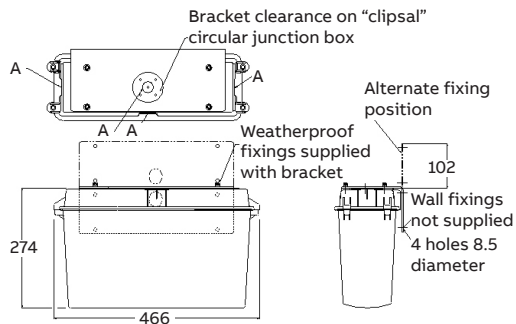
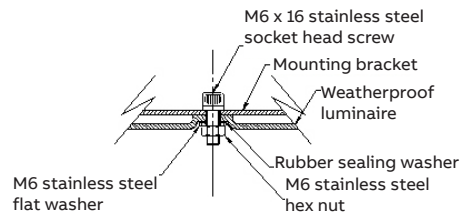
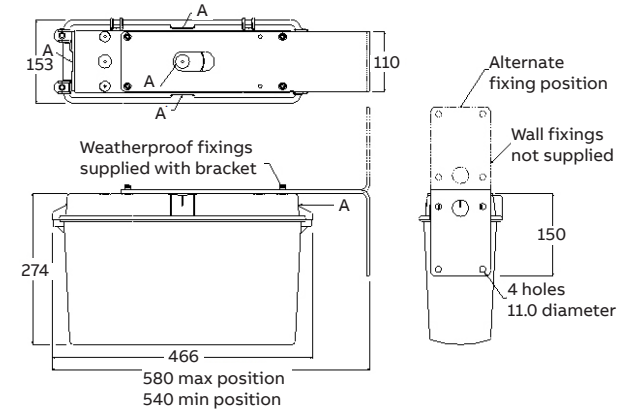
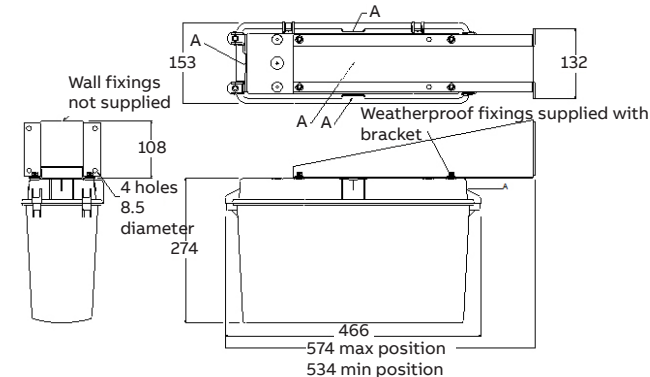

Figure 2: Showing installation detail of wall mount bracket
Figure 3: Showing details of supplied hardware to be used with the bracket
Figure 4: Showing installation detail of cantilever heavy duty wall mount bracket
Figure 5: Showing installation detail of cantilever light weight wall mount bracket
2. The exit must only be installed as per figure 3, that is, with the terminal block at the top. This is to ensure that the exit is securely held and cannot inadvertently slide out of the bracket.
2. Using Stanilite wall mount bracket WQFWM; for robust wall mounting use Stanilite wall mounting bracket part number WQFWM. Refer figure 2 for installation of wall mount bracket. The bracket is manufactured from 2.0mm stainless steel and is powder coated low sheen black. In figure 2 'A' indicates conduit adaptors can be fitted to these faces. Installer must ensure proper sealing of any penetration to the base to maintain the IP rating of the luminaire. The necessary hardware (screws, nuts and washers) are supplied with the bracket. Figure 3 shows how the supplied hardware is used when installing the wall bracket to the nylon base.
1. Using Stanilite heavy duty cantilever wall mount bracket WQFCLH; for robust cantilever wall mounting use Stanilite heavy duty bracket part number WQFCLH. Refer following figure 4 for installation of cantilever heavy duty wall mount bracket. The cantilever heavy duty bracket is manufactured from 6.0mm mild steel, hot zinc dipped and is powder coated low sheen black. In figure 4 'A' indicates conduit adaptors can be fitted to these faces. Installer must ensure proper sealing of any penetration to the base to maintain the IP rating of the luminaire. The necessary hardware (screws, nuts and washers) are supplied with the bracket. Figure 3 shows how the supplied hardware is used when installing the cantilever heavy duty wall bracket to the nylon base.
2. Using Stanilite light weight cantilever wall mount bracket WQFCLL; refer figure 5 for installation of cantilever light weight wall mount bracket WQFCLL. The cantilever light weight bracket is manufactured from 1.5mm stainless steel and is powder coated low sheen black. In figure 5 'A' indicates conduit adaptors can be fitted to these faces. Installer must ensure proper sealing of any penetration to the base to maintain the IP rating of the luminaire. The necessary hardware (screws, nuts and washers) are supplied with the bracket. Figure 3 shows how the supplied hardware is used when installing the cantilever light weight wall bracket to the nylon base.